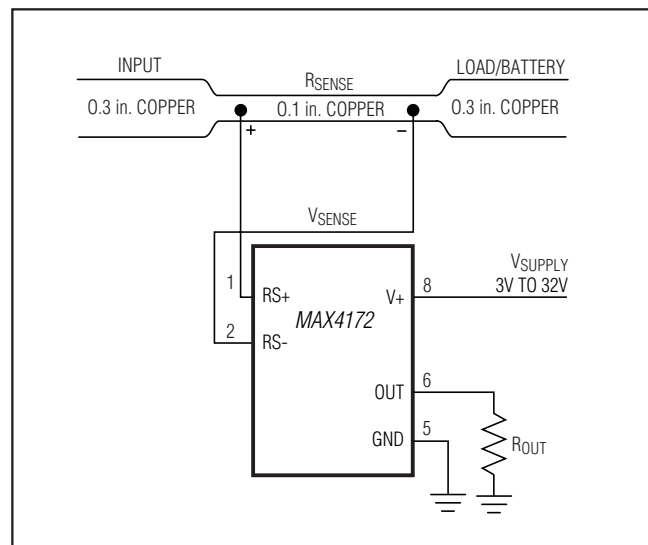

Figure 2. MAX4172 Connections Showing Use of PC Board
- Cost:** If the cost of  $R_{SENSE}$  is an issue, you might want to use an alternative solution, as shown in Figure 2. This solution uses the PCB traces to create a sense resistor. Because of the inaccuracies of the copper resistor, the full-scale current value must be adjusted with a potentiometer. Also, copper's resistance temperature coefficient is fairly high (approximately 0.4%/°C).
In Figure 2, assume that the load current to be measured is 10A, and that you have determined a 0.3-inch-wide, 2-ounce copper to be appropriate. The resistivity of 0.1-inch-wide, 2-ounce (70 $\mu$ m thickness) copper is 30m $\Omega$ /ft. For 10A, you might want  $R_{SENSE} = 5\text{m}\Omega$  for a 50mV drop at full scale. This resistor requires about 2 inches of 0.1-inch-wide copper trace.